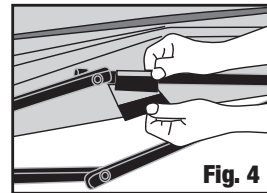

Fig. 4
- Secure shelter top to frame with nylon fasteners provided. (Fig. 4 & 5)